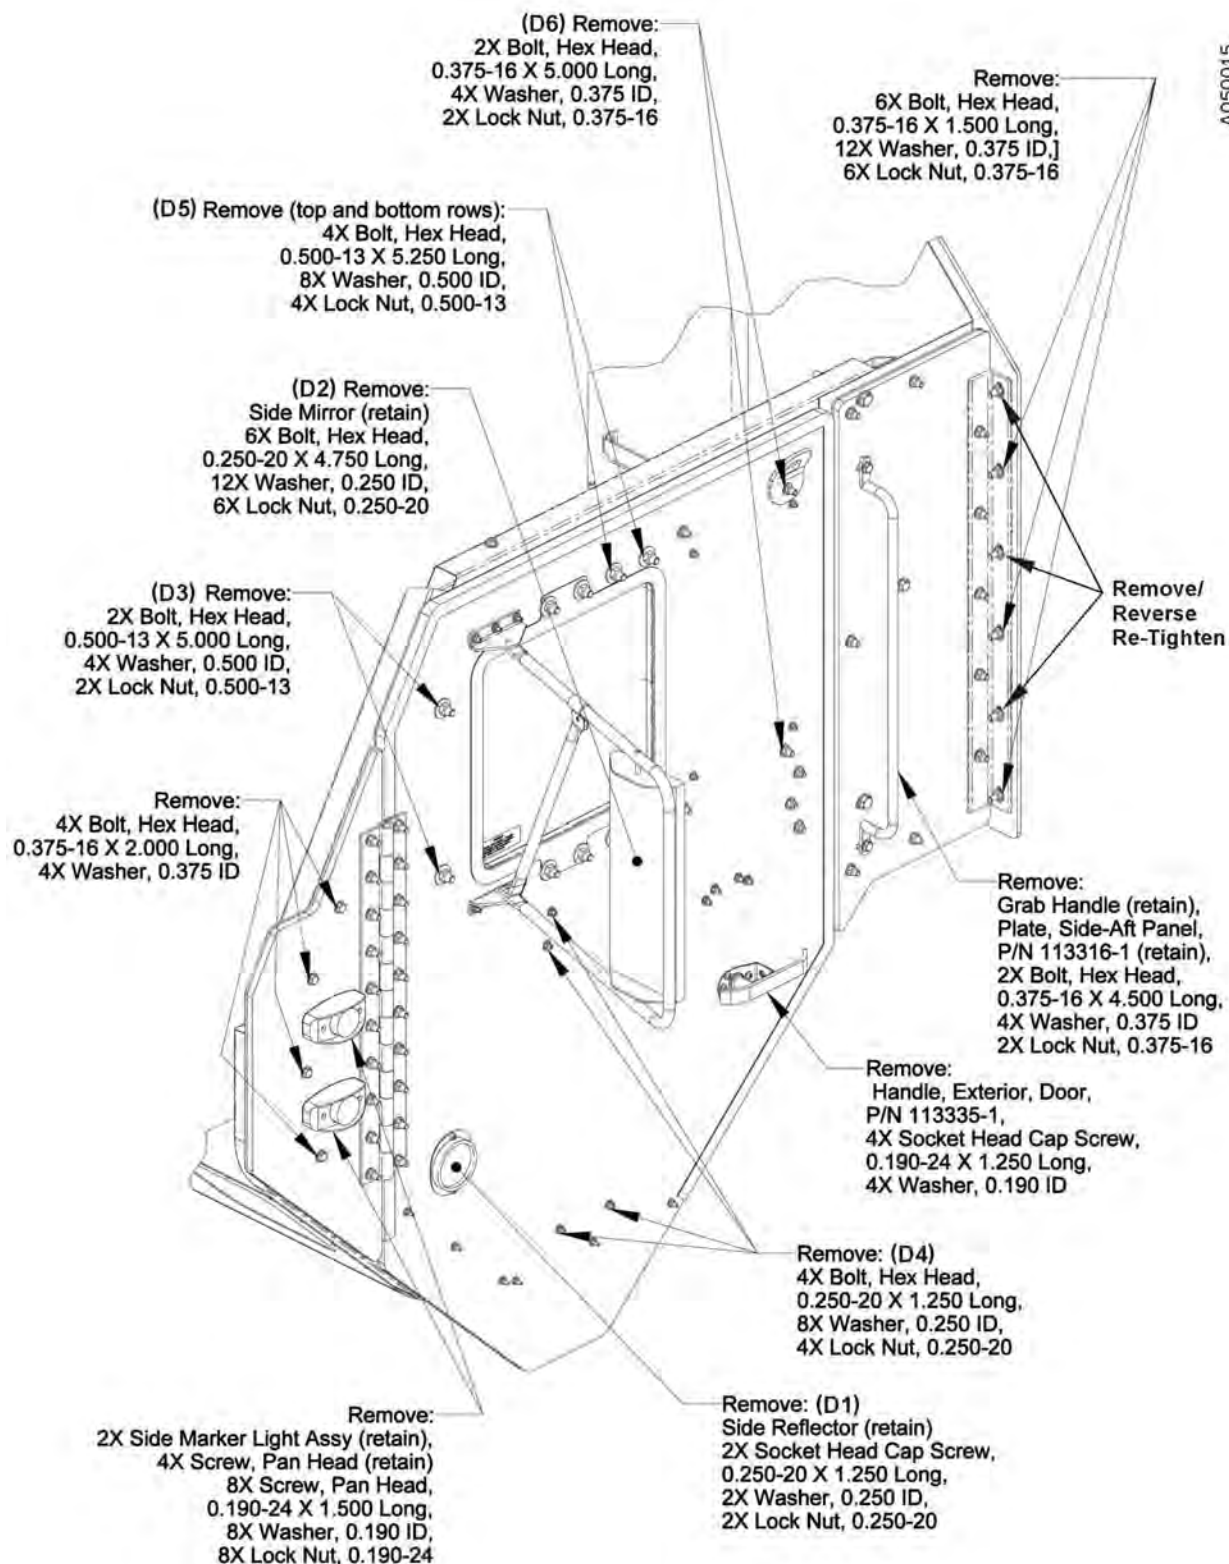

Figure 2. Preparation for Applique Armor Kit installation.
See Figures 2 and 3 for illustrations showing the location of hardware that is removed during the Kit installation and the installation of the Driver's-Side Forward Applique Armor Panel (P/N 114602-1).
- e. Remove 4 hex-head bolts / washers from the forward armor plate (see Figure 2).
See Figures 2 and 3 for illustrations showing the location of hardware that is removed during the Kit installation and the installation of the Passenger-Side Forward Applique Armor Panel.
See Figures 2 and 4 for illustrations showing the location of hardware that is removed during the Kit installation and the installation of the Driver's-Side Door Applique Armor Panel (P/N 114601-1).
See Figures 2 and 4 for illustrations showing the location of hardware that is removed during the Kit installation and the installation of the Passenger-Side Door Applique Armor Panel.
See Figures 2 and 5 for illustrations showing the location of hardware that is removed during the Kit installation and the installation of the Driver's-Side Door Applique Armor Panel (P/N 114603-1).
- a. Remove the aft Grab Handle, mounting hardware, and Plate (see Figure 2).
- b. Remove and reverse (with the bolt heads to the nut side) three bolts / nuts / washers on the Aft Angle Bracket (see Figure 2). Re-torque to the values listed in Appendix A.
- c. Remove three bolts / nuts / washers from the Aft Angle Bracket (see Figure 2).
See Figures 2 and 5 for illustrations showing the location of hardware that is removed during the Kit installation and the installation of the Passenger-Side Aft Applique Armor Panel (P/N 114603-1).